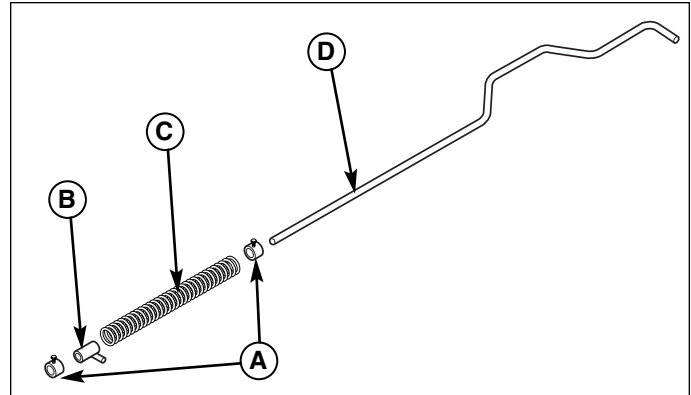

Figure 11. Lift Rod Assembly
1. Assemble lift rod per Figure 11.